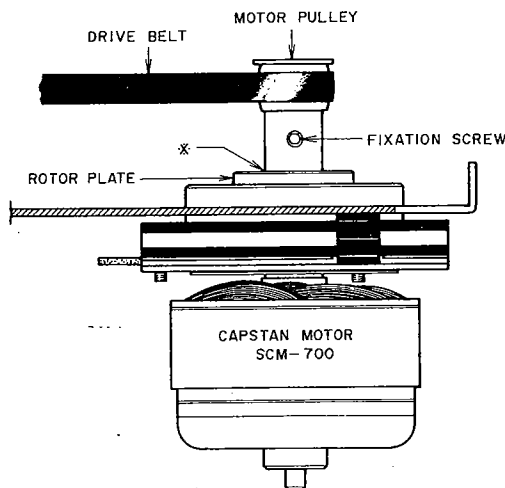

Fig. 4
2. MOTOR PULLEY INSTALLATION POSITION ADJUSTMENT (Refer to Fig. 4)
NOTE: After above adjustment, in case the drive belt does not run on the center of Motor Pulley, re-adjust installation position of Motor Pulley so that the drive belt comes to the center of the Pulley. (Refer to Fig. 4)